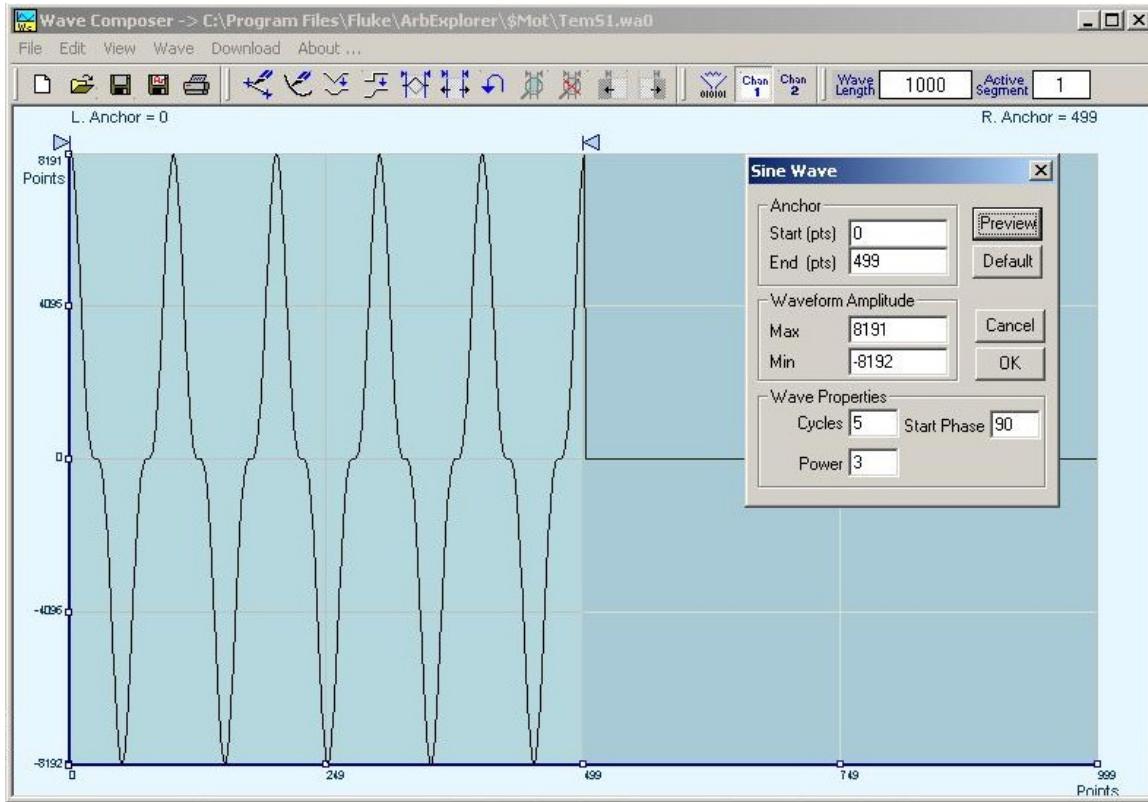

Figure 4-18, Generating Distorted Sine waves from the built-in Library
You can create any waveform from the built-in library using the Wave command. Clicking on one of the Wave options will open a dialog box. An example of the Sine waveform dialog box is shown in Figure 4-18. This dialog box is representative of the rest of the waveforms, so other waveforms will not be described.
Use the following procedure to create sine waveforms from the built-in library. Click on Wave, then sine... the dialog box as shown in Figure 4-18 will appear. You can now start programming parameters that are available in this box.
- 2) You can also place your anchors in a more precise manner from the waveform library by programming the start and end points for the waveform. An example of anchor placement using the sine dialog box is shown in Figure 4-18.